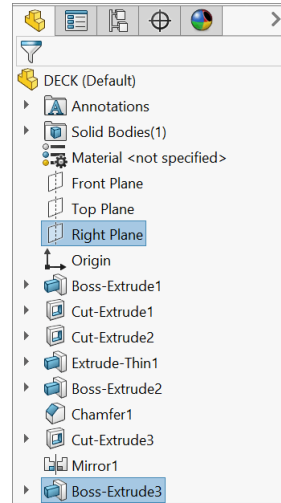

Fig. 64
- Step 1. Ctrl click **Right Plane** and **Boss-Extrude3** feature to select Plane and feature, Fig. 64.